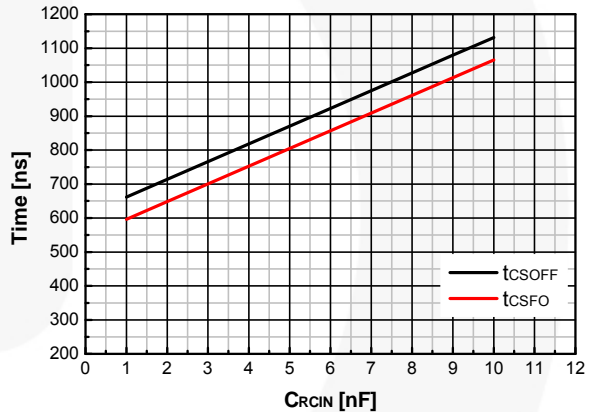

**Figure 42. RCIN and Fault-Clear Waveform Definition**
Figure 42 shows the waveform definitions of RCIN,  $\overline{FO}$  and the low-side driver, which uses a soft turn-off method when an under-voltage condition of the low-side gate driver supply voltage ( $V_{DD}$ ) or the current-sense pin (CS) recognizes a fault. Once a fault condition occurs, the  $\overline{FO}$  pin is internally pulled to COM and all outputs (HO1,2,3 and LO1,2,3) of the gate driver are turned off. Low-side outputs decline linearly by the internal sink current source ( $I_{SOFT}=40\ \text{mA}$ ) for soft turn-off, as shown in Figure 42.